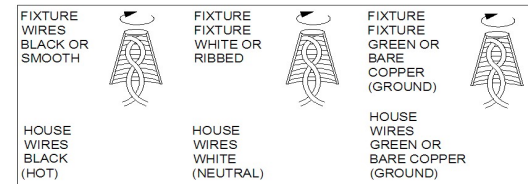

Fig 3
Replacing LED module (Fig. 3)
The LED module can be replaced by a qualified electrician without cutting of wire and without damage to any decorative element to which the fixture is attached. See installation steps for more details (Fig.3.)
1. There is 1 LED module in each square of the fixture. If one of them do not work, replace it as shown in Fig. 3. Make sure the power is off before you replace.
2. Unscrew screws (G) and the ground screw (D) with screwdriver and disconnect the ground wire and loosen the wire connectors (N) to remove the fixture from the wall.
3. Loosen wire connectors (E), disconnect the wires respectively, and then unscrew screws (H) and screws (L) to remove lamp shade (M) and cover (K), replace a new module (J).